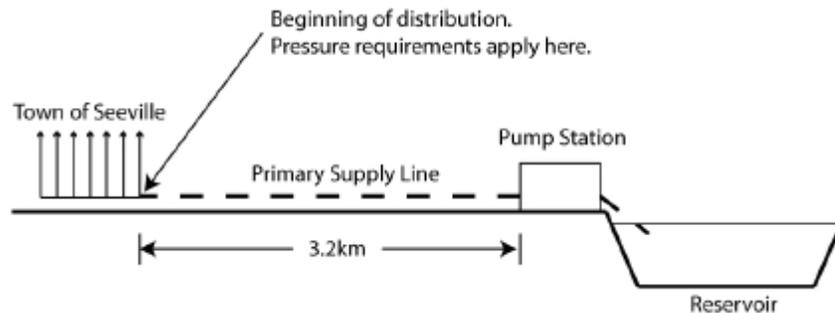

Figure 1: Arrangement of Water Supply
- The pump station is to be located at the Seeville Reservoir, which is 3.2km from the inlet to the municipal distribution system (Figure 1).